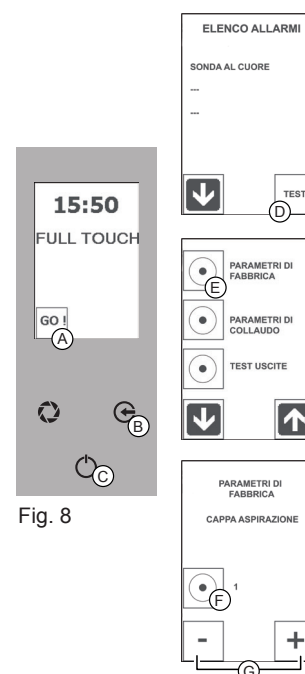

Fig. 8
1. Push the icon "GO" to start up the main menu (Fig. 8/a).
2. Push at the same time the icon "GO" and key "ENTER" to select the function "LIST ALARM" (Fig. 8/A+C).
3. Push the icon "TEST" (Fig. 8/D) and the icon "PARAMETER" (Fig. 8/E) to enter into the function.
4. Push several times the icon "PLUS" (Fig. 8/G) to select the function "ASPIRATION HOOD" and the icon "CONFIRM" (Fig. 8/F) to enter into the function.
5. Set the value "1" with icon "PLUS" and push the icon "CONFIRM" to memorize (Fig. 8/F).
Push several times key "ESC" (Fig. 8/B) to exit from the function and return to the initial screen.